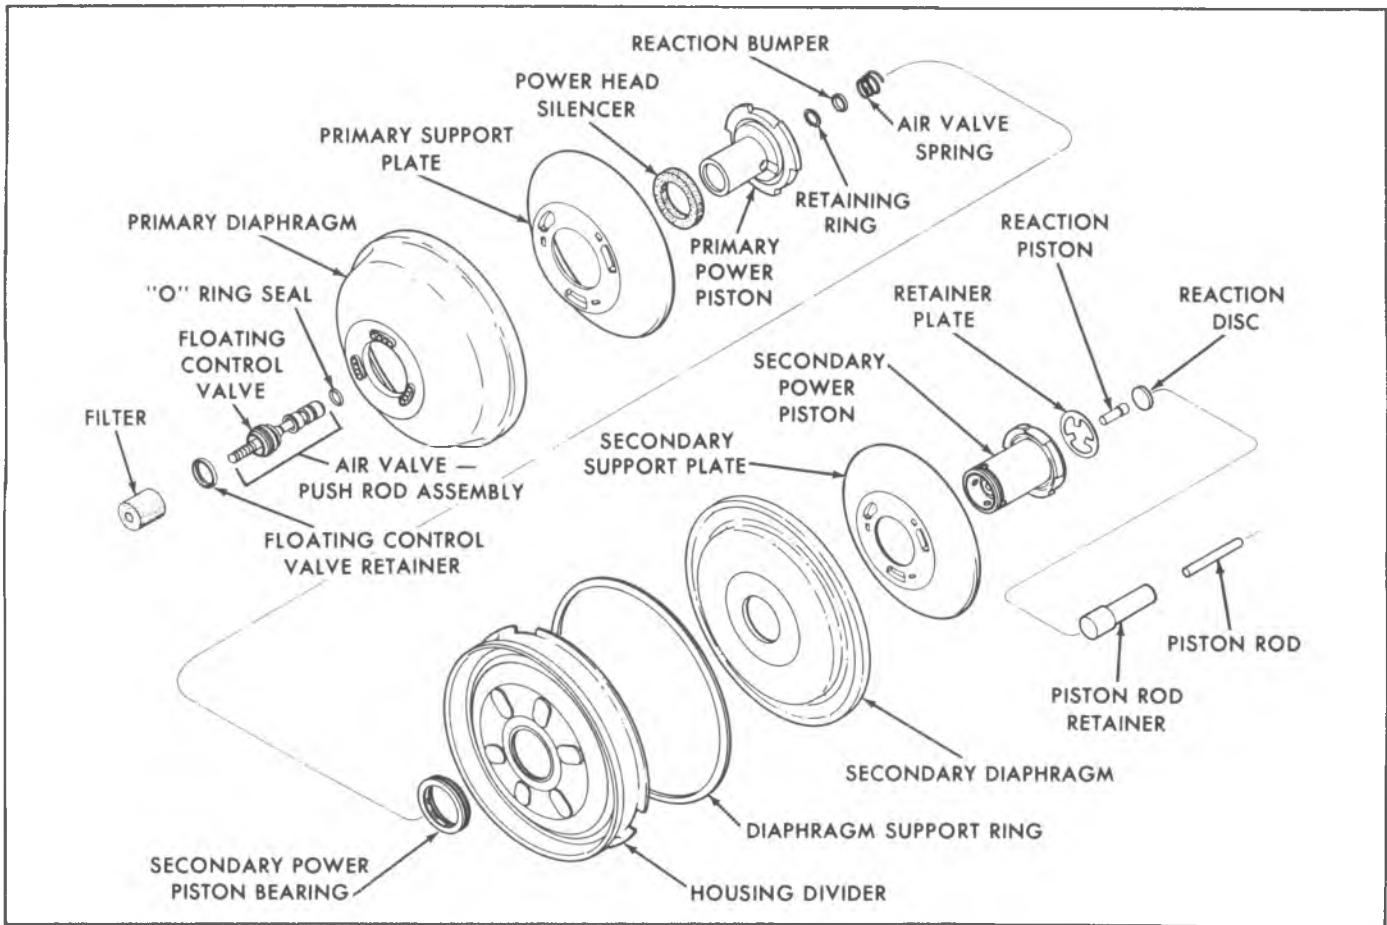

Fig. 3B--Power Piston Group
1. Lift the bead on the O.D. of the secondary diaphragm and remove the diaphragm support ring (fig. 3B).